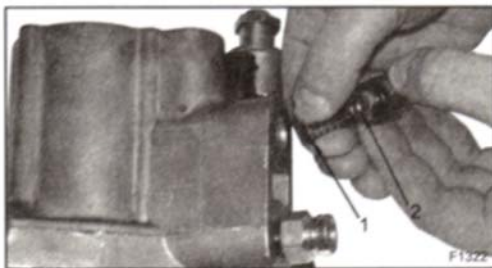

Figure 3 Installing spring and discharge fitting
1. Install spring and check valve assemblies as seen in Figure 3.